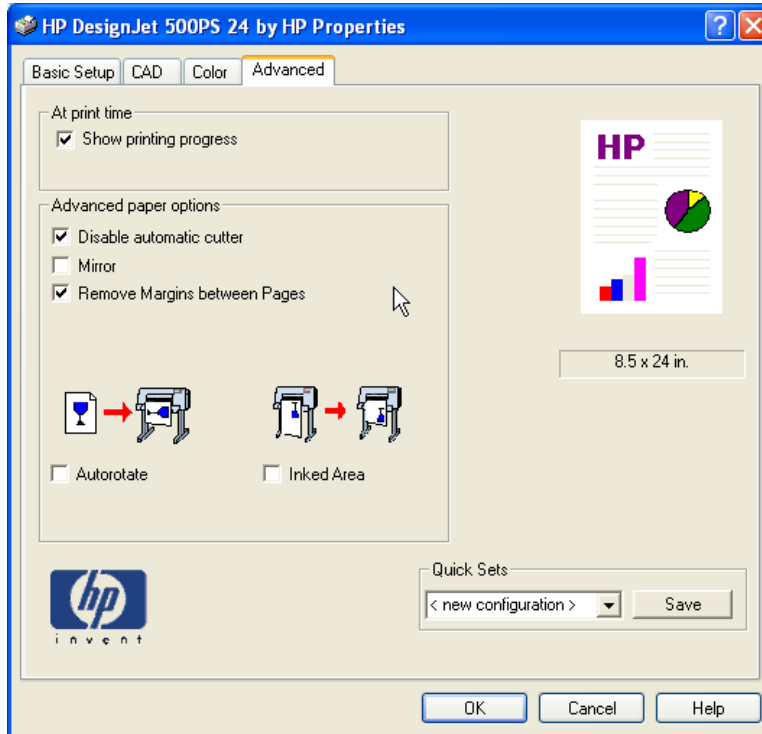
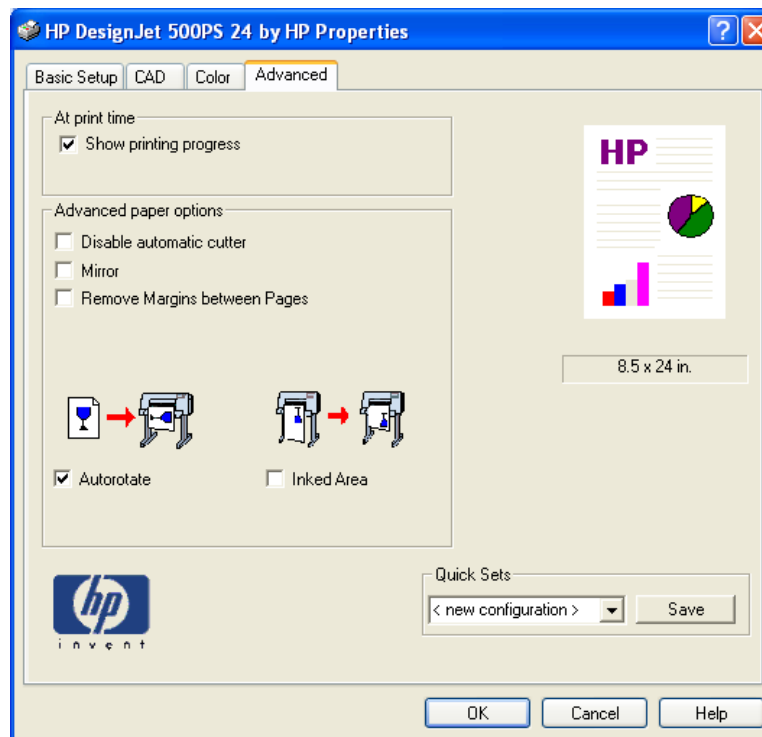

Figure 1
Figure 2
- 9.) Power*Log printing (portrait page orientation). **If you are printing from Power*Curve (horz logs) proceed to Step 10** Now click on the **Advanced tab** to define the final output of your log. There are several things you can do here. Disable the cutters for a vertical log and remove the page margins to print a continuous log and waste a log of paper. **Figure 1** Or auto rotate the image, enable the cutters and do not remove the page margins to save paper **Figure 2**. Proceed to Step 11